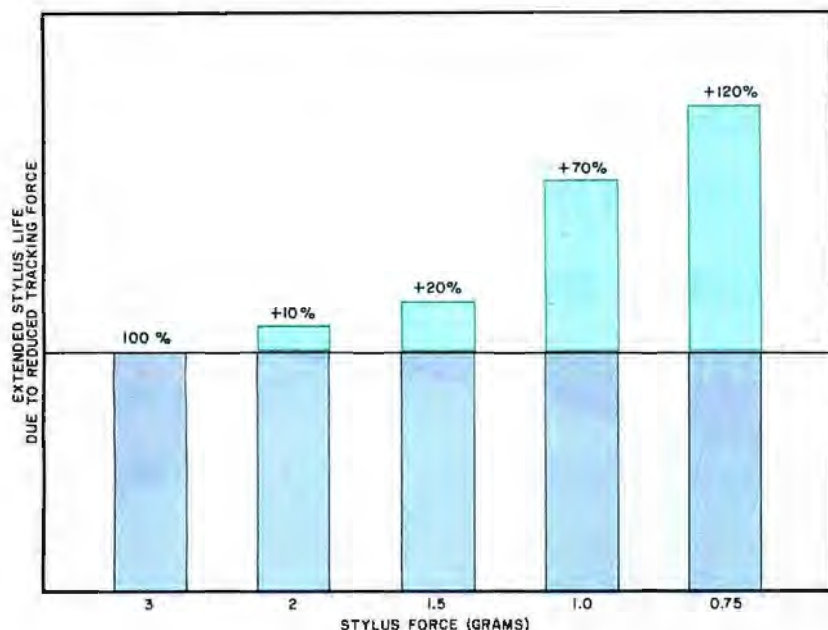

Fig. 2. Shure's studies suggest that stylus forces of 1.5 grams are best for reduced stylus wear.
Getting Worn. The perennial questions of consumers as to how long their styli or their records can be expected to last remain unanswered. However, there are some general conclusions that can be drawn at this time. (1) According to Shure, stylus wear is closely related to tracking force, no matter what the configuration of the stylus (conical, elliptical, Shibata, etc.). The bar graph in Fig. 2 illustrates this, and shows why Shure recommends a maximum of 1.5 grams on tracking force. (2) Playing the same record over and over for a given number of hours is likely to result in more stylus